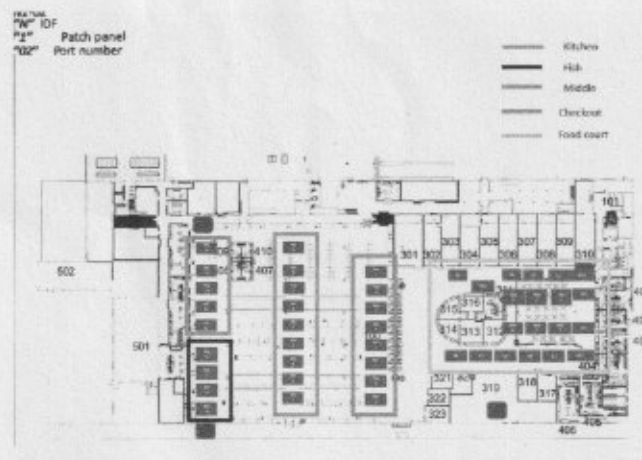

Fig. 3: Floor Plan
- We could not set temperatures at 'will' at different zones and so the duct delivering cold air will not target the specific zones. Hence if there is a complaint that a zone is hot, the HVAC will tend to bring the temperature of the entire building down. (Figure 3 for Floor plan)